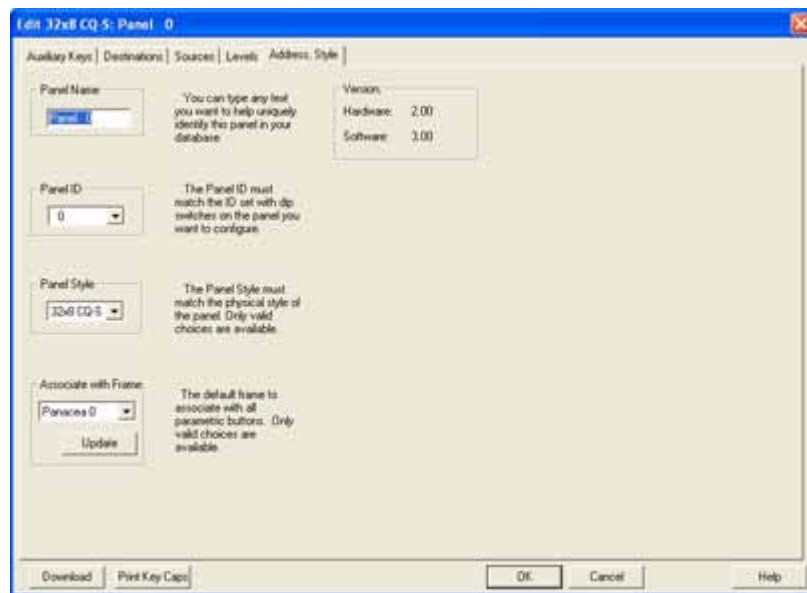

Figure 2-8 Address, Style Tab
- 5 Select the Address, Style tab. Panel information should appear as shown in **Figure 2-8**.